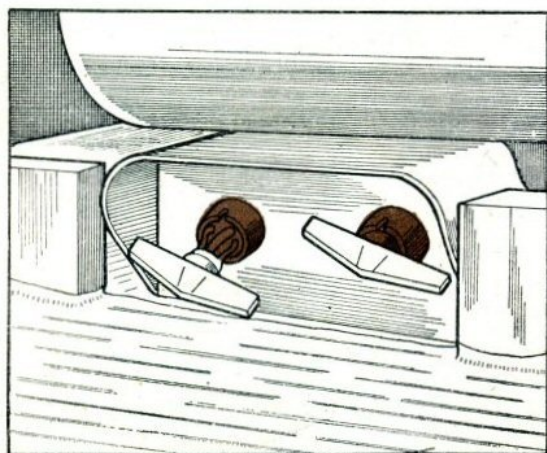

Fig. 36.
4. Using A.C., seal the fire extinguisher handles (see Fig. 36). Carefully pull out each handle $\frac{1}{2}$ in. or so, and pack A.C. into the handle tube. Replace each handle and smear compound around the outside.